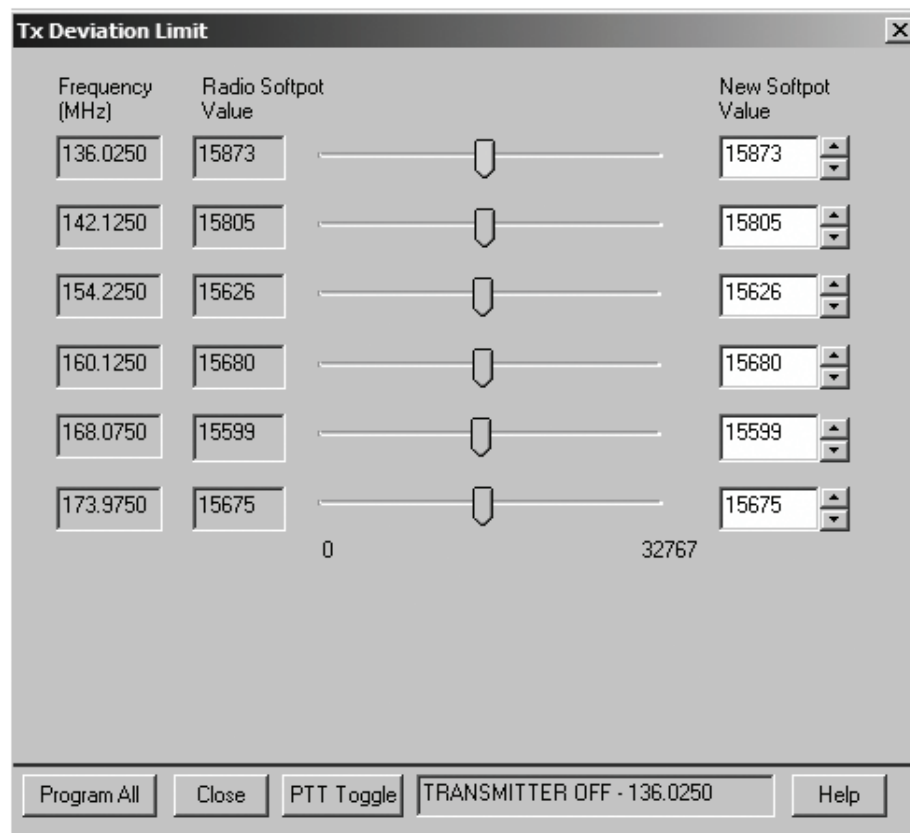

Figure 11. Transmit Deviation Limit Alignment Screen
1. Select the **TX Deviation Limit** alignment screen. The screen will indicate the transmit frequencies to be used. See Figure 11.